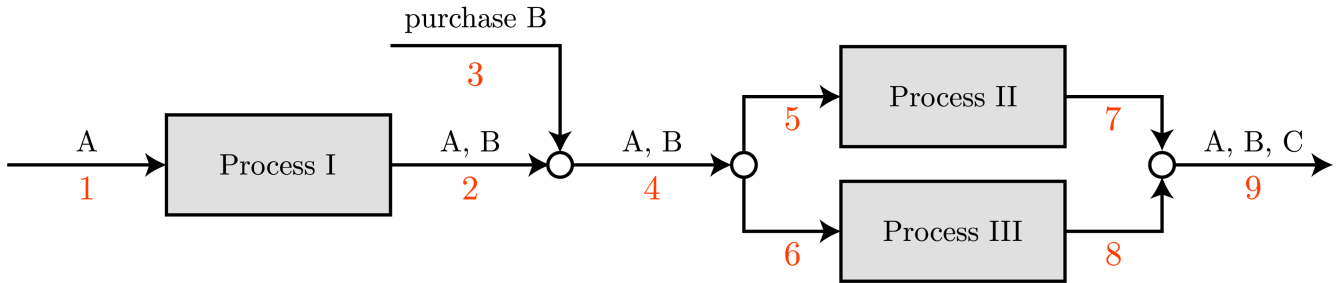

Figure 1: Problem 1 superstructure
- (a) The superstructure is shown in Figure 1. Each flow is labeled with a red number under flow arrows, and all potential species in each flow is noted above flow arrows.